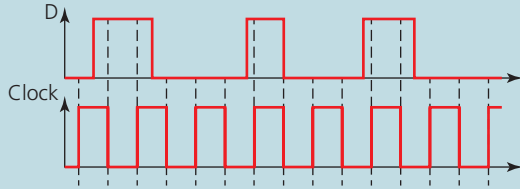

Figure 17
5. Figure 17 shows the signals applied to the D and Clock inputs of a D-type flip flop that is triggered on the rising edge. Copy these signals and below them, to the same time scale, complete the outputs for Q and \bar{Q} .